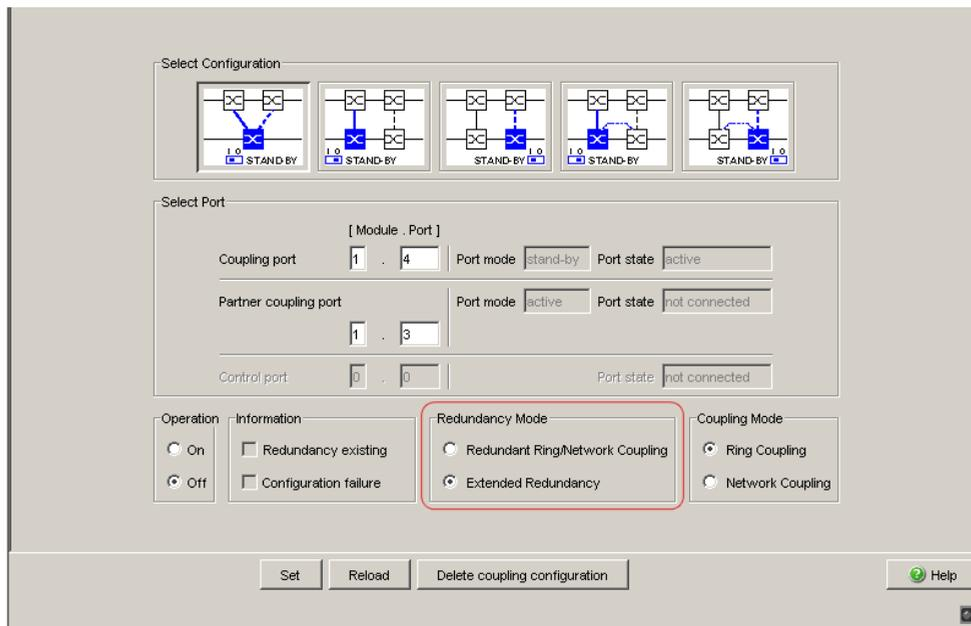

Figure 11: One-Switch coupling: Selecting the redundancy mode
- In the “Redundancy Mode” frame, select (see figure 11)